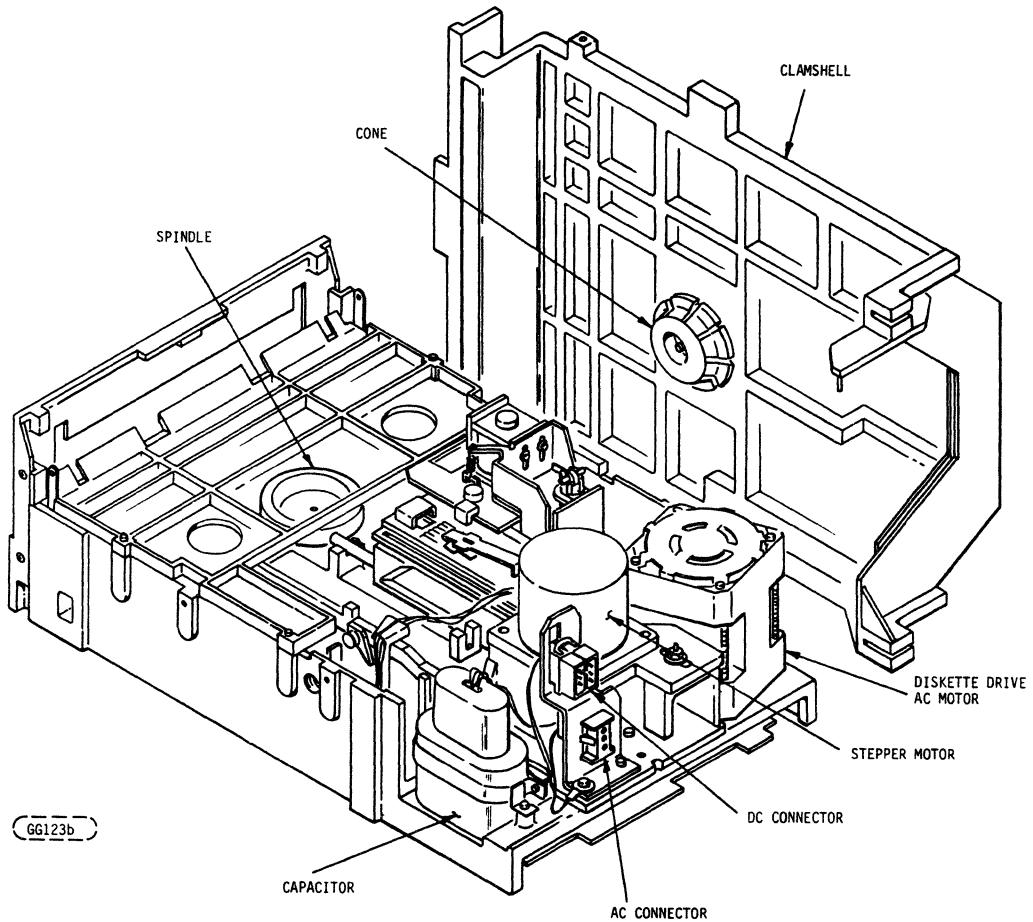

FIGURE 6-9. POSITIONING AND HEAD-LOAD MECHANISM,
- i. If not in alignment, slightly loosen the stepper-motor mounting screws, (see Figure 6-9), slowly rotate the stepper motor until the amplitudes of both lobes are the same, and tighten the hardware. If there is insufficient adjustment range of the motor, perform the following:
Refer to Figures 6-9 and 6-10.